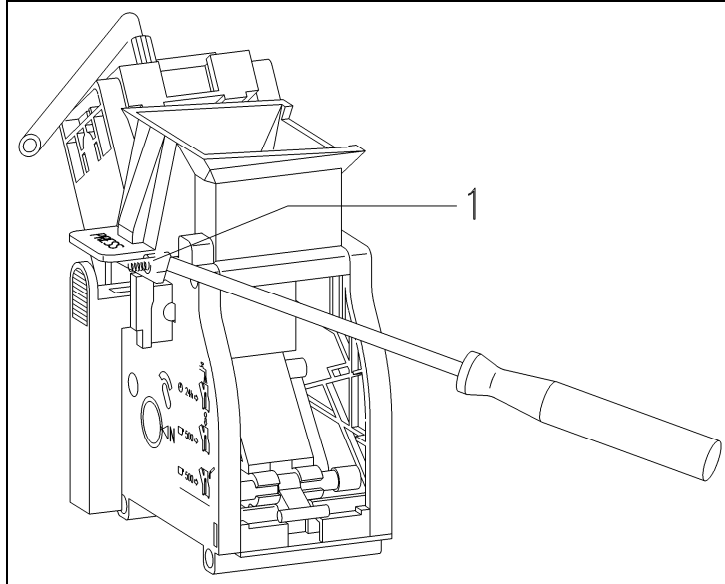

Figure 5-31: Brew Unit Spring Location and Holder
3. Lever the funnel up and out of its holder (Figure 5-31).
When re-installing the funnel, ensure that the spring (Figure 5-31, Item 1) is seated correctly.